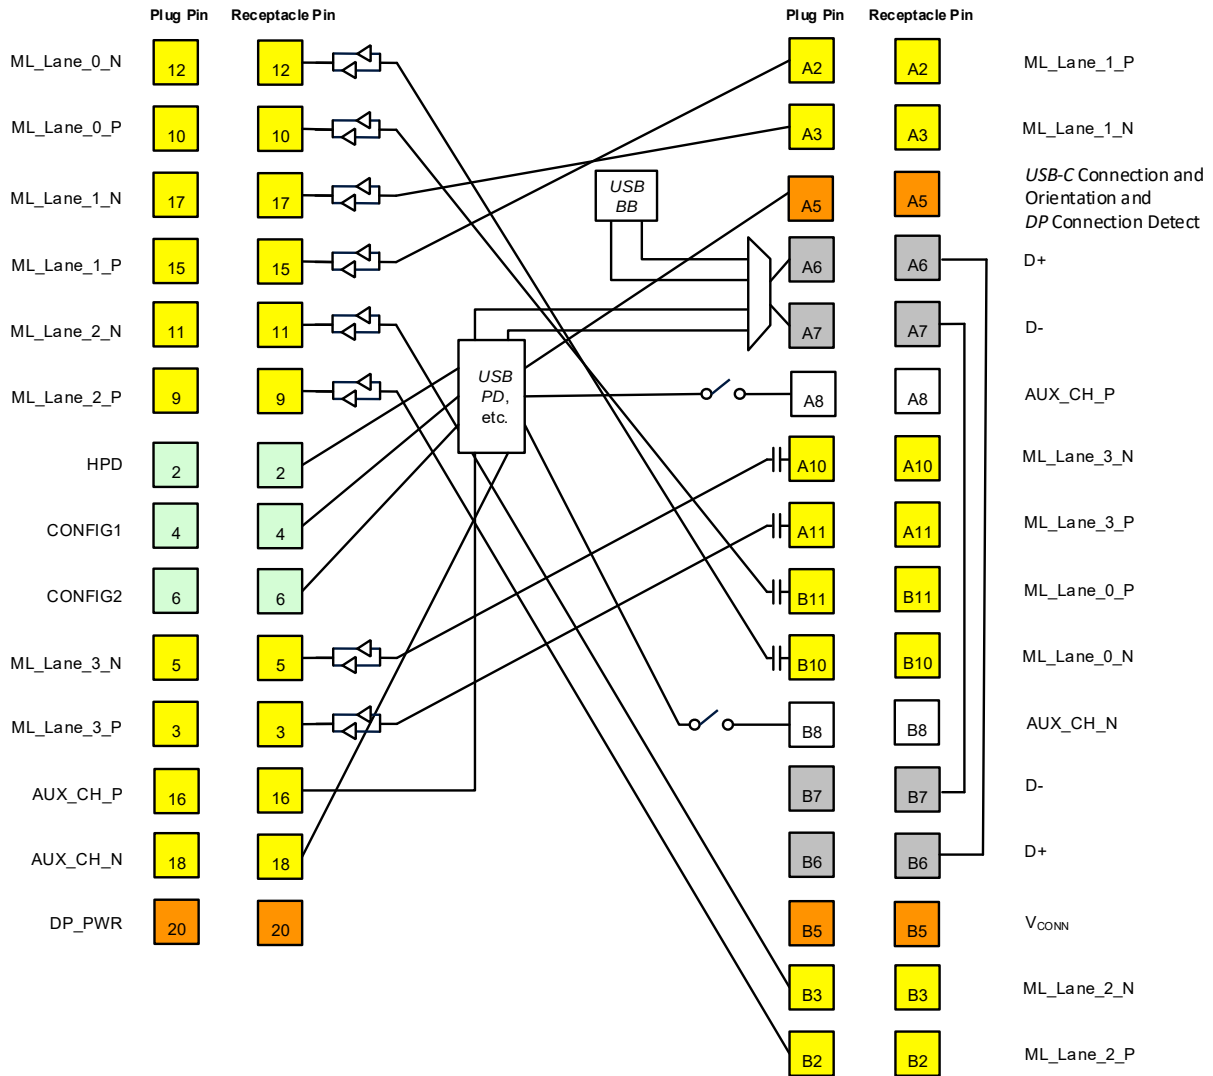

Figure 4-37: Scenario 5b mDP Adapter Wiring – Normal Plug Orientation
- Figure 4-37 illustrates this use for an mDP receptacle when the *USB-C* plug is inserted in normal orientation